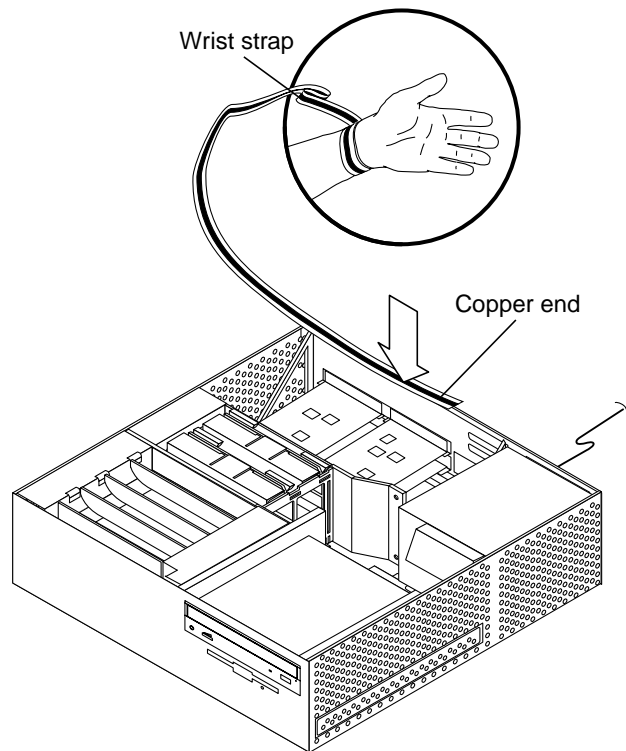

FIGURE 2-5 Attaching the Wrist Strap to the Ultra 2 Chassis
1. Unwrap the first two folds of the wrist strap and wrap the adhesive side firmly against the wrist (FIGURE 2-5).